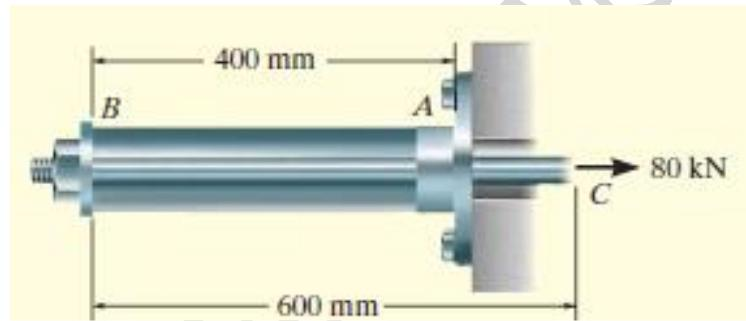

Fig. 2b
b) The assembly shown in Fig. 2b consists of an aluminium tube AB having a cross-sectional area of 400 mm^2 . A steel rod having a diameter of 10 mm is attached to a rigid collar and passes through the tube. If a tensile load of 80 kN is applied to the rod, determine the displacement of the end C of the rod. Take $E_{st} = 200 \text{ GPa}$, $E_{al} = 70 \text{ GPa}$